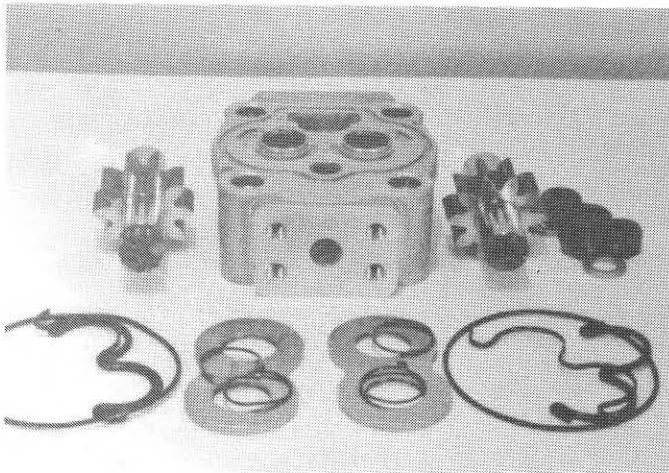

FIG. 11
13. Keep the parts from each pump section in separate groups. (Fig. 11)